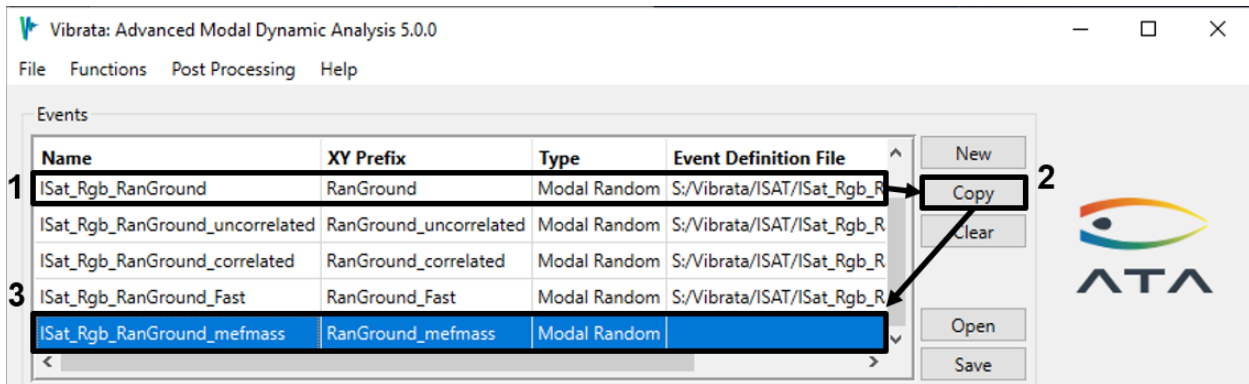

Figure 4-70. Copy the original rigid-base event; the new one will exclude modes with negligible effective mass.
1. In the Event Manager, copy the event from section 4.3.2 using the **Copy** button and then assign a new name to the new event (Figure 4-70).